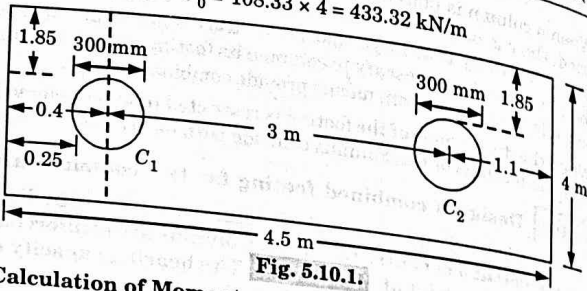

Fig. 5.10.1.
3. Calculation of Moments and Shear Forces : Fig. 5.10.1 shows the loading, SFD and BMD for slab footing :